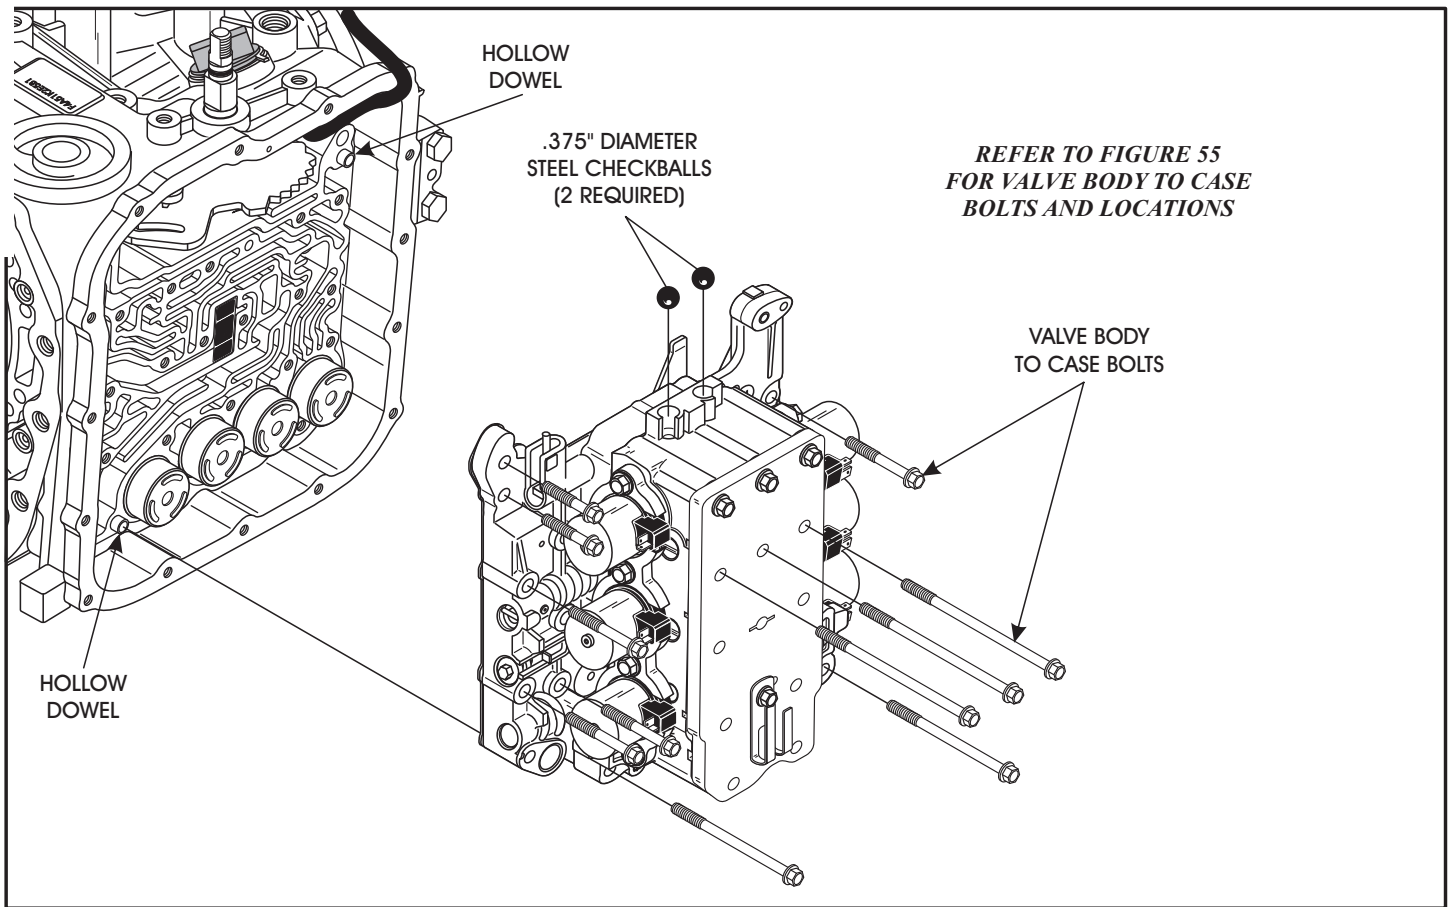

Figure 56
8. Remove 28 valve body to case bolts and the valve body assembly, as shown in Figure 56.
9. Notice the two steel balls in the top of valve body, as shown in Figure 56.